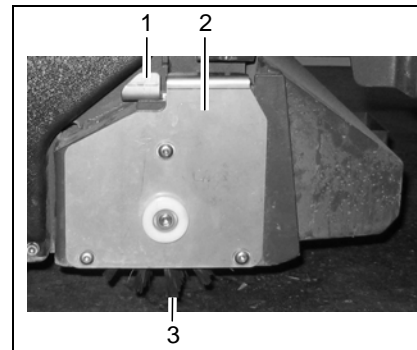
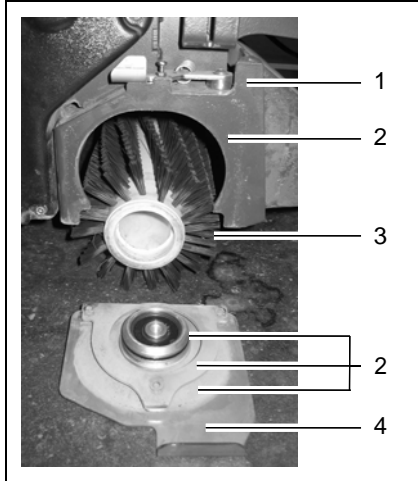

Fig. 5
Fig. 6
2. Slide the locking lever (Fig. 5/1) for the brush holder (Fig. 5/2) to the middle of the device and hold it there.
3. Allow the brush holder (Fig. 5/2) to lower down and remove it.
4. Release the locking lever (Fig. 5/1).
5. If necessary, remove the existing rotary brush (Fig. 5/13) from the housing (Fig. 6/1).
Ensure that the contact surfaces (Fig. 6/2) are clean. Clean them thoroughly, if necessary, before fitting them on the brush holder (Fig. 6/4).
8. Slide the locking lever (Fig. 5/1) to the middle of the device and hold it there.
9. Mount the brush holder (Fig. 6/4) on the rotary brush (Fig. 6/3), press against the housing (Fig. 6/1) and then slide upwards.
10. Pivot the locking lever (Fig. 5/1) back under the brush holder (Fig. 6/4) to the stop.